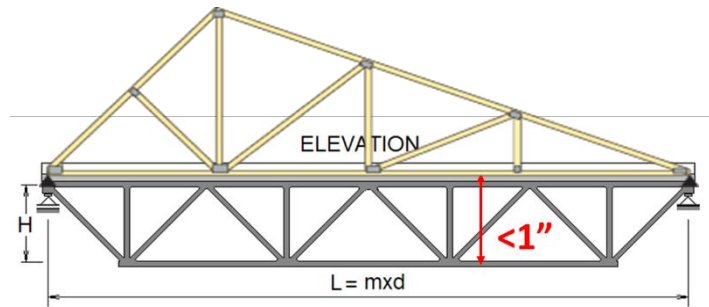

Figure 5: Limitation for substructure
- d. Substructure is permitted, but the depth is restricted to a maximum of 1 inch, as depicted in Figure 5. The substructure members must not obstruct the arrangement of the bridge on the loading platform.